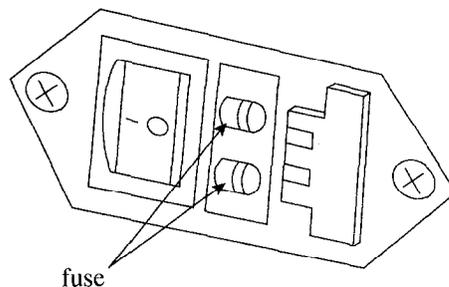

Fig.11.5.2 Interior of fuse holder
- (4) Pull out the fuse holder, as shown in Figure 11.5.2.